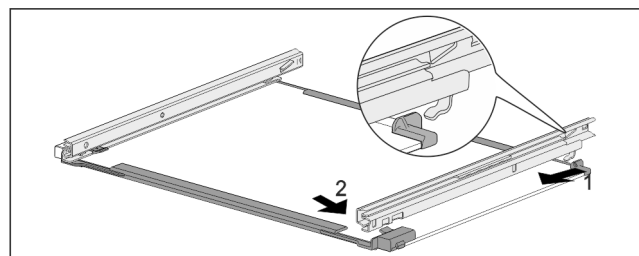

Fig. 142 Glass shelf with rails
- ▶ Hook in rail at the back. Fig. 142 (1)
- ▶ Hook in rail at the front. *Fig. 142 (2)*